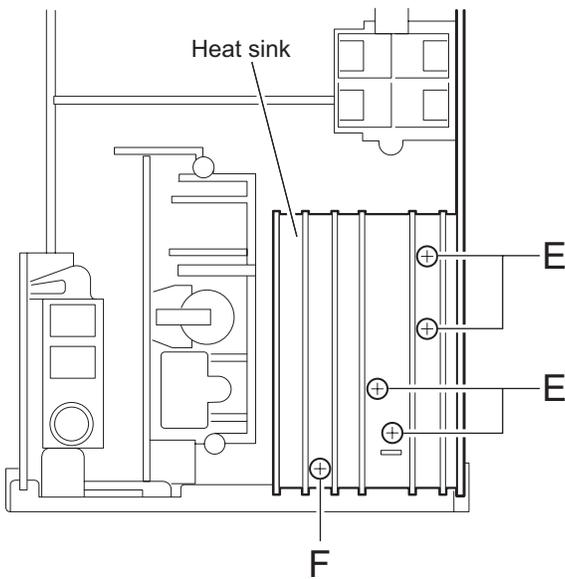

Fig.8
2.2.4 Removing the flywheel (See Fig.8, 9)